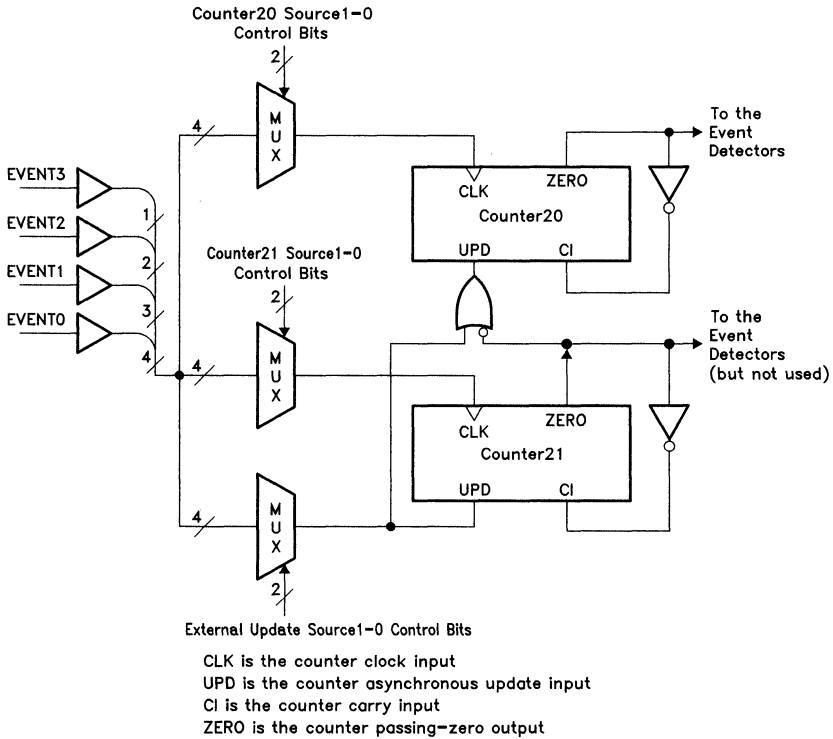

FIGURE 18. TIERED USE OF COUNTER20 AND COUNTER21
- Tiered use is similar to separate use except that counter20 is held updated until the first time counter21 passes zero (see Figure 18).